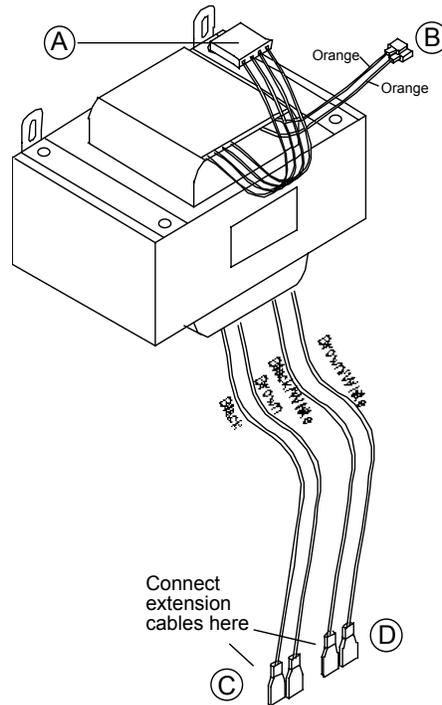

Figure 2-5
11. Slide the new transformer onto the mounting plate making sure that the black and brown wires face down. (See Figure 2-5)
15. Connect the plain black and plain brown wires to the cable extension with the smaller spade lug (part #6105-398) (C on Figure 2-5).
17. Connect the black/ white and the brown/ white wires to the cable extension with the larger spade lug (part #6105-399 (D on Figure 2-5).
19. Connect the orange lead wires to the rectifier bridge (B on Figure 2-5).
20. Connect the MATE-N-LOCK transformer connector (A on Figure 2-5).